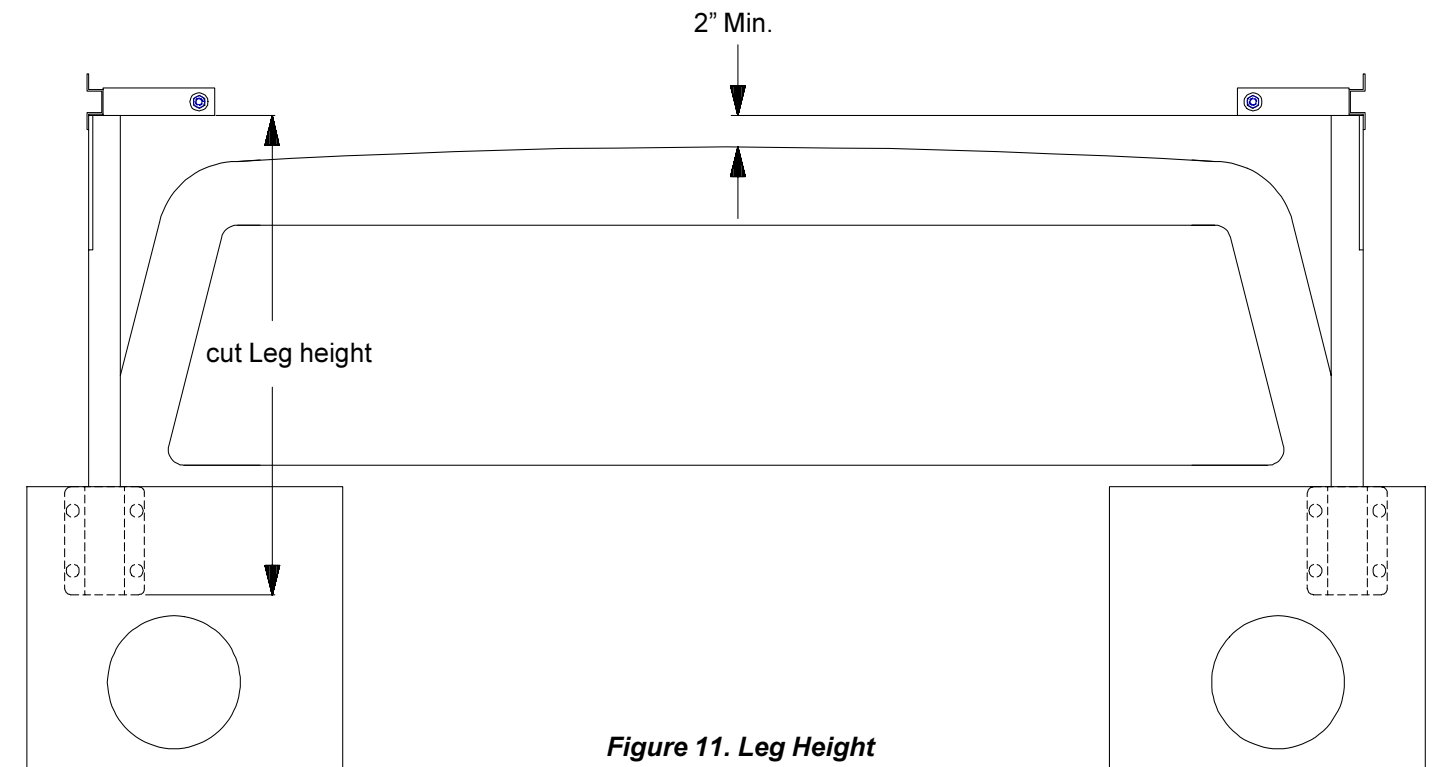

Figure 11. Leg Height
**3. Leg Height** - Measure from inside Leg Support to a minimum of at least 2" above cab of truck (see Figure 11.). The Legs can be cut this dimension. **NOTE:** If Leg Support mounting Option 2 was used at the rear, the Rear Legs will be cut 3-7/8" shorter than the Front Legs to keep the rack level.